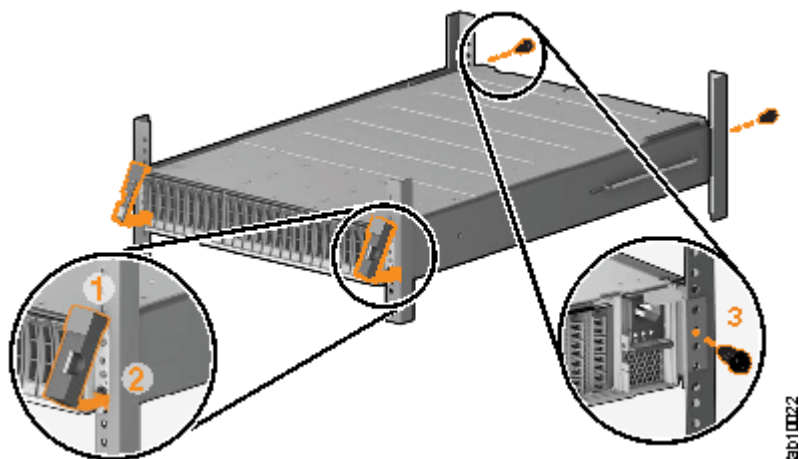

Figure 24. Reinstalling enclosure end caps
5. Re-install the left and right end caps (See Figure 24 on page 46).